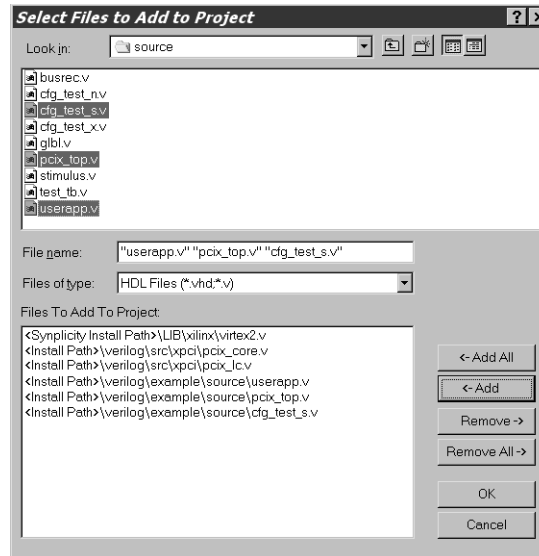

Figure 5-5: Files to Add (User Application)
7. Navigate to the source directory (Figure 5-5), select the `cfg_test_s.v`, `pcix_top.v`, and `userapp.v` files, and then click Add.